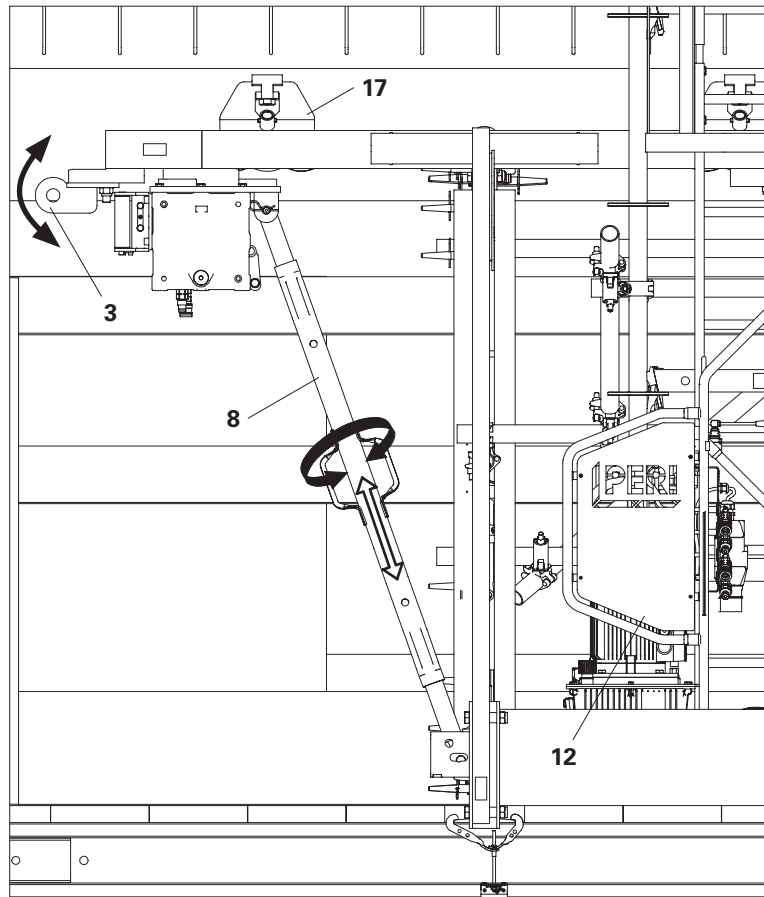

Fig. 23
Make sure that the height of the Travelling Nose 25-2 VARIOKIT (3) is optimally adjusted with the Push-Pull Prop RS 210 (8) before threading it into each Roller Unit VARIOKIT (17). Avoid tilting when threading the VARIOKIT roller unit (17). (Fig. 23)
1. Switch on the Hydraulic Unit RCS 4 x 190 bar, 380 – 460 V (12), see page 23.
2. Operate the Hydraulic Unit RCS 4 x 190 bar, 380 – 460 V (12), see page 24.
3. Adjust the Push-Pull Prop RS 210 (8). (Fig. 23)
4. Switch off the Hydraulic Unit RCS 4 x 190 bar, 380 – 460 V (12), see page 24.